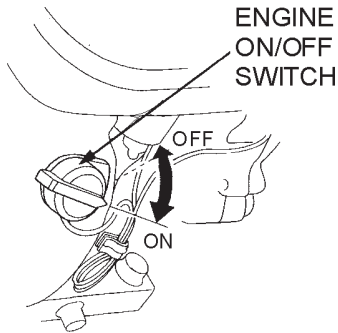

Figure 13. Engine ON/Off Switch (OFF Position)
2. Place the **Engine ON/OFF switch** (Figure 13) in the **OFF** position.
2. Place the engine **ON/OFF** switch in the **OFF** position (Figure 13).